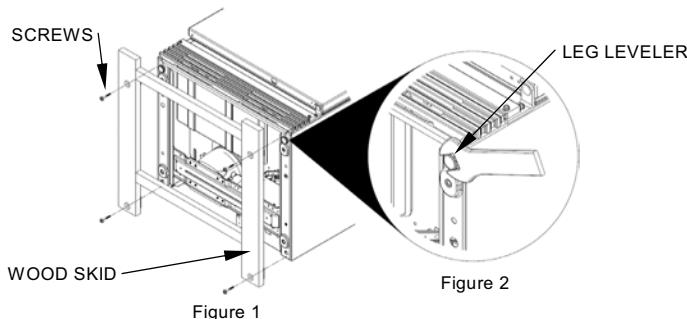

Figure 1
- Remove and discard the wood skid from the bottom and the four (4) screws using a 3/8" socket wrench (see Fig. 1).